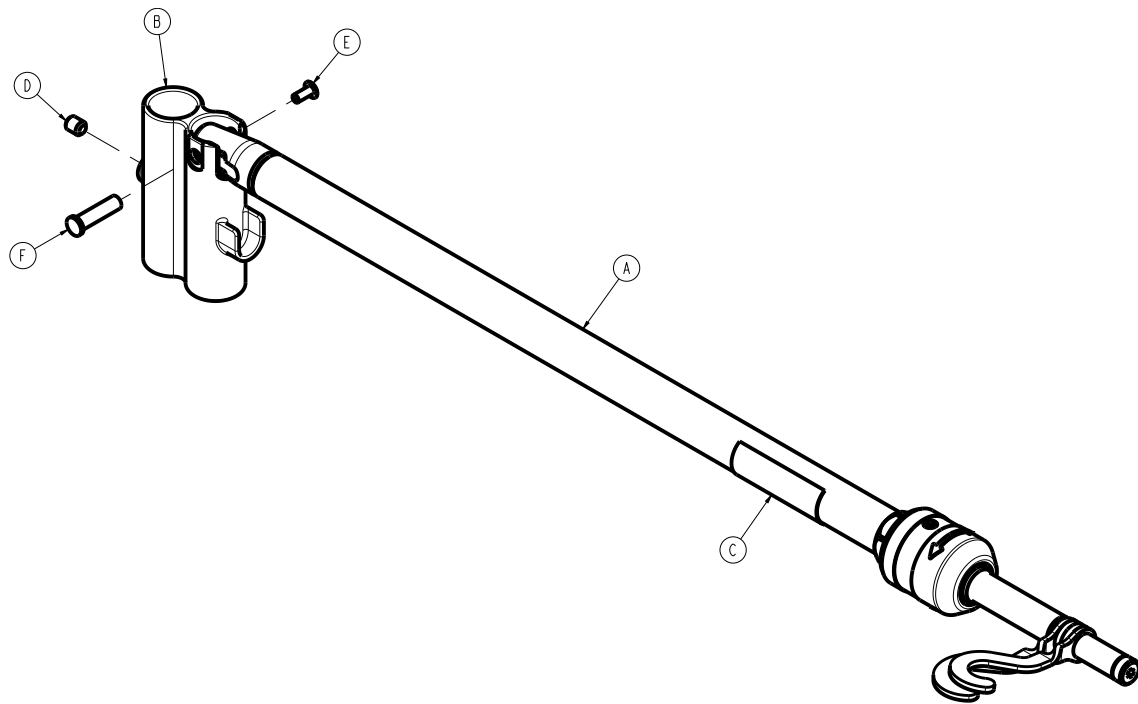

Figure 78 – Attaching the dual IV pole, top
9. Using a 5/32" hex wrench, tighten the set screw (D) to secure the top IV receptacle (B) to the bed IV post (Figure 78).